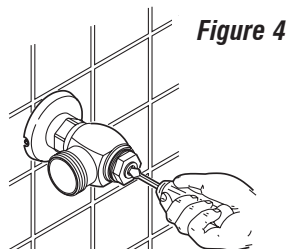

Figure 4
Step 2 — Flush Out Supply Line (Figure 4)